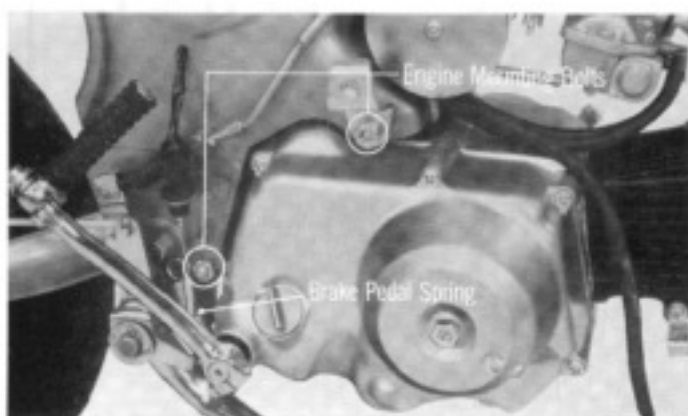

Fig. 6
12. Hook off the brake pedal spring at the top to simplify the job of removing the engine. (Fig. 6)
14. Then the engine can be separated from the frame, by drawing out the two 8 mm engine mounting bolts. (Fig. 6)